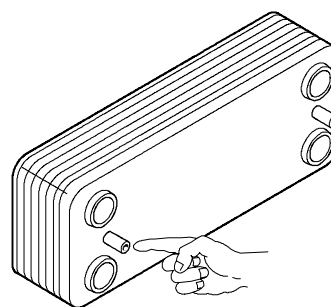

Fig. 6.5
**Attention.** When reassembling the exchanger be sure to put the off centre location/securing pin indicated in Fig. 6.5 towards the left side of the boiler.